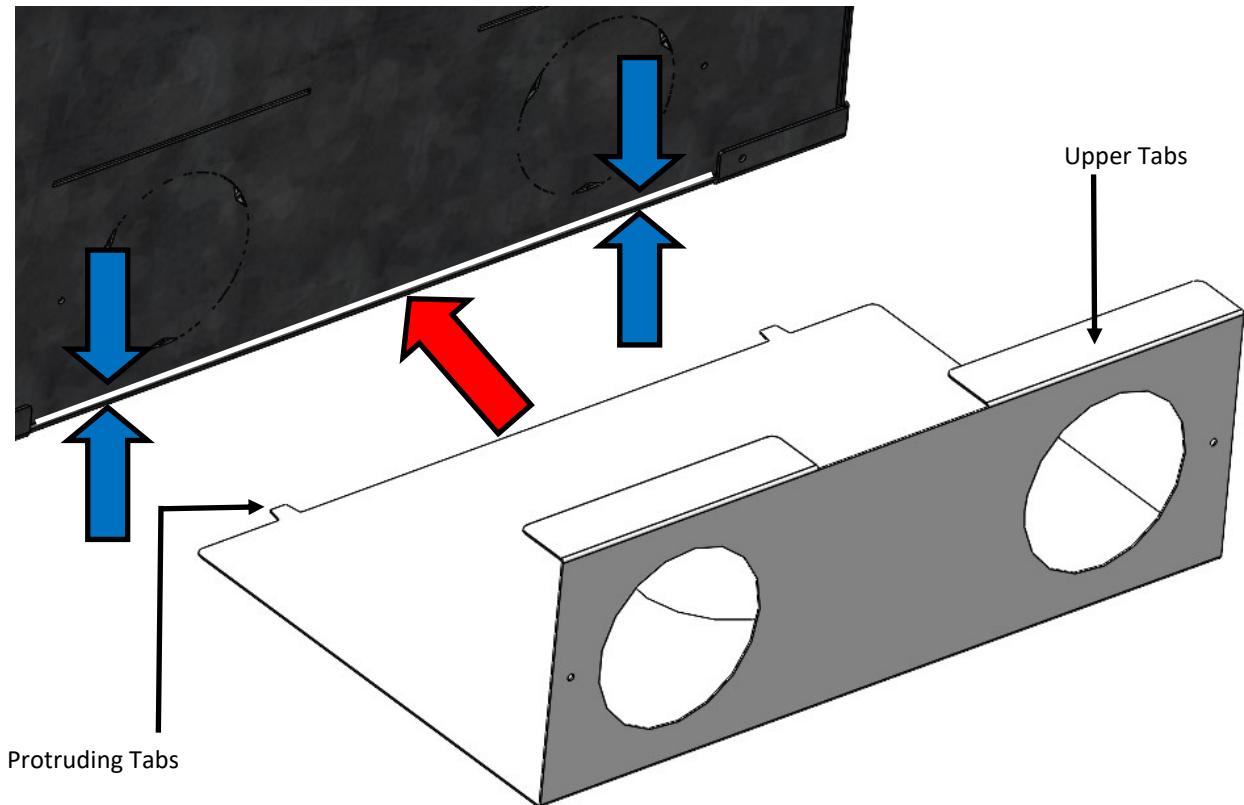

Fig. 12. Mount The Direct Air Cover
- Looking at the rear of the external casing, slide the direct air cover inwards towards the rear panel. As shown in Fig. 12. below.